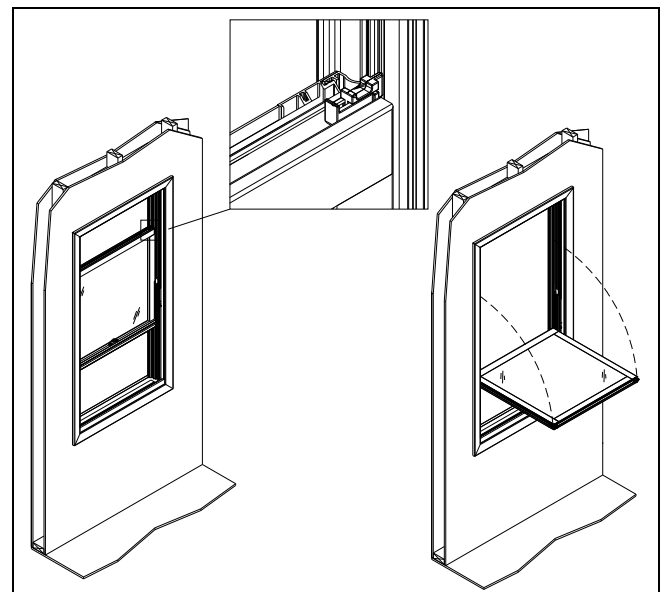

Figure 26 Interior view
26. Lower top sash about 1/2 way. Pull the tilt latches (in the top edge of sash top rail) until they retract fully. Hold latches until they clear unit frame when tilting. See figure 26.